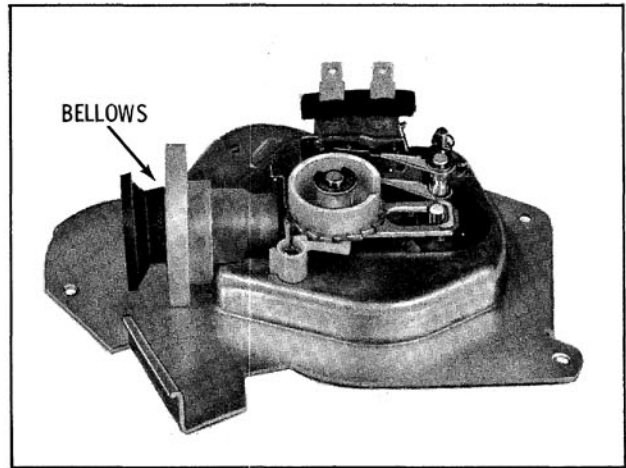

Fig. 13-165 Bellows Extended
9. Rotate ratchet with thumb until bellows extends out of housing. (Fig. 13-165)